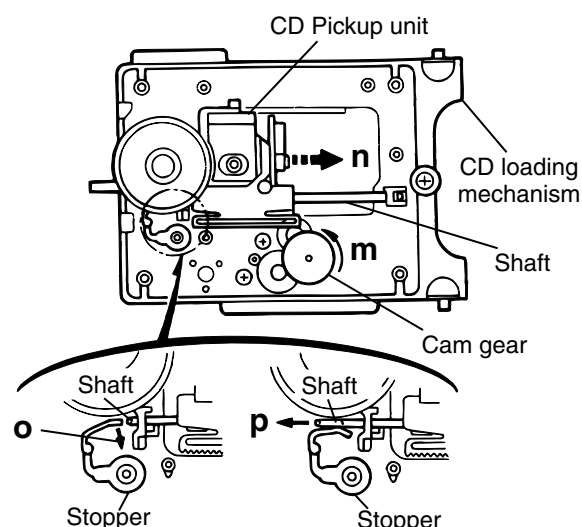

Fig.13
■ Removing the CD pick unit (See Fig.13)